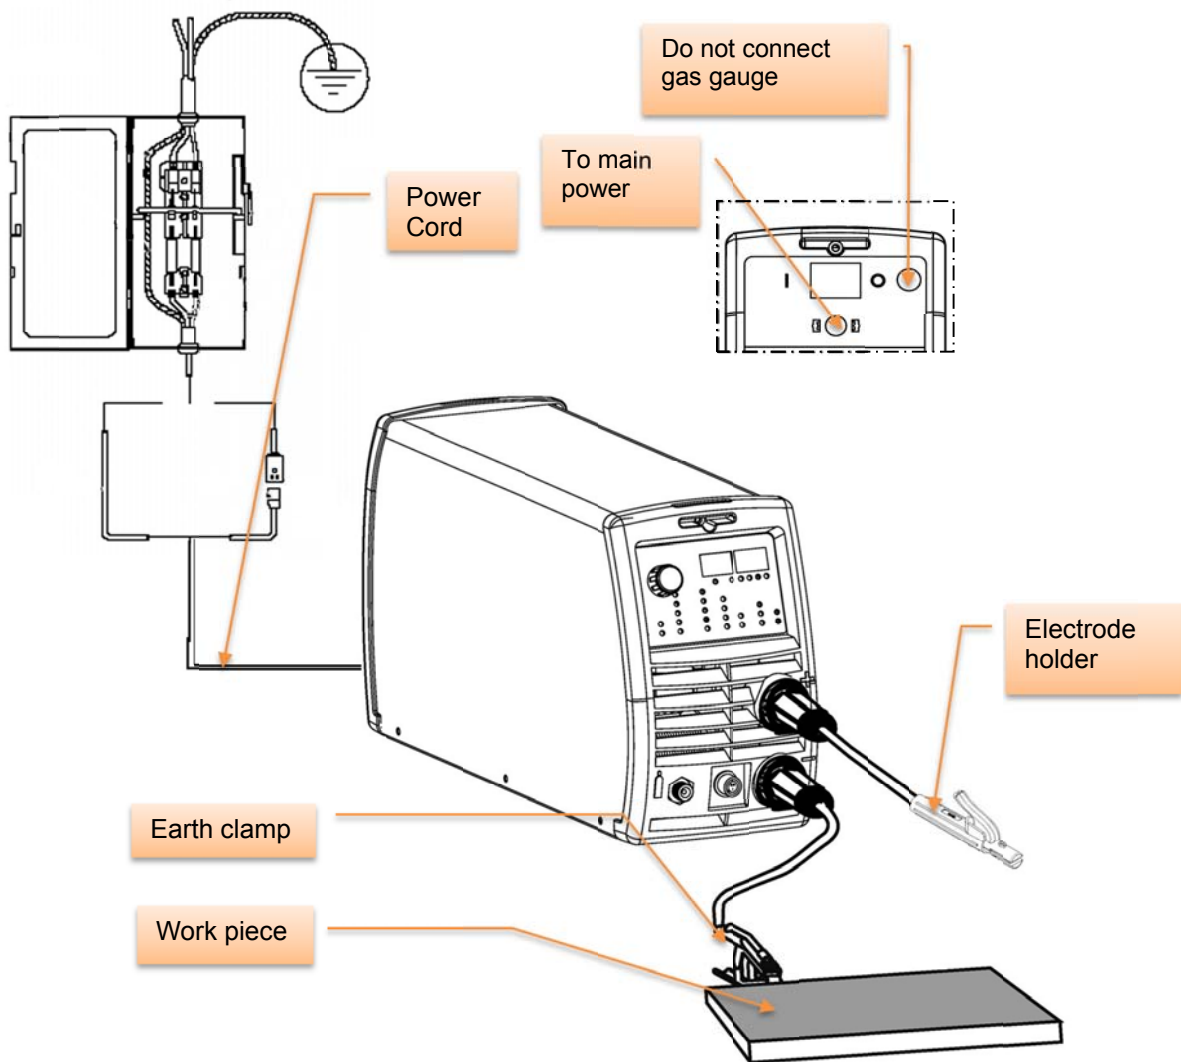

Figure 3.2
- 3-7.3. Connect electrode holder, earth cable, according to connection diagram (refer to Figure 3.2). Insert Electrode holder/earth clamp quick connector into receptacle and turn 90° clockwise.